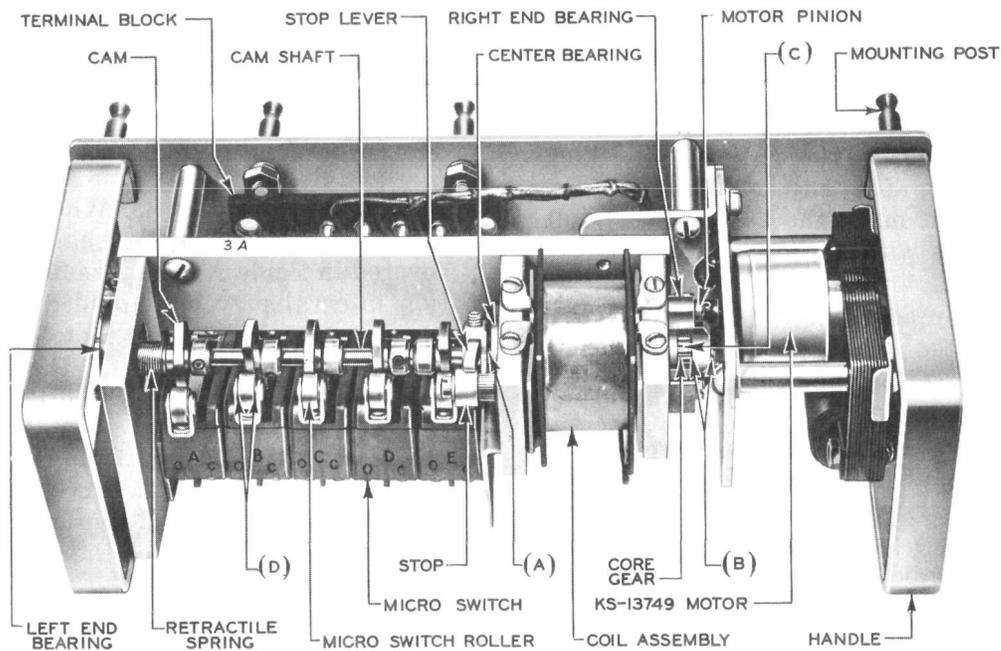

Fig. 1 - 3A Timer
Core Gear and Motor Pinion Fig. 1(C) or 2(B)	1 dip distributed evenly over the periphery of the core gear.
Micro Switch Roller Bearings Fig. 1(D)	2 dips distributed between the roller bearings of all Micro Switches. Lubricant shall be applied at each side of each roller.
Micro Switch Roller Bearings Fig. 1(D)	1 dip distributed between the roller bearings of all Micro Switches. Lubricant shall be applied at each side of each roller.